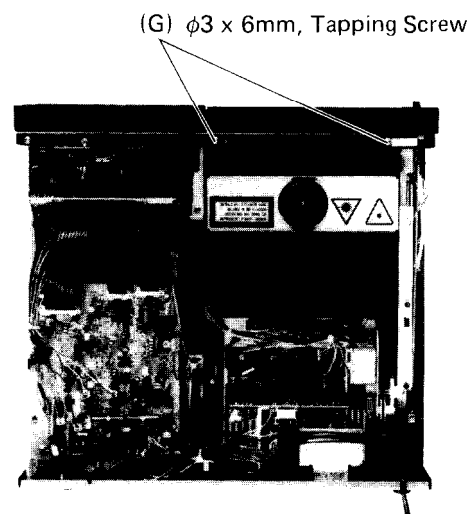

Figure 13
2. Remove six screws (G), (H) & (I) securing front panel, and the front panel assembly will be removed. (Pay attention to connector leads and joint of power supply switch.) (See Figure 13, 14 and 15)